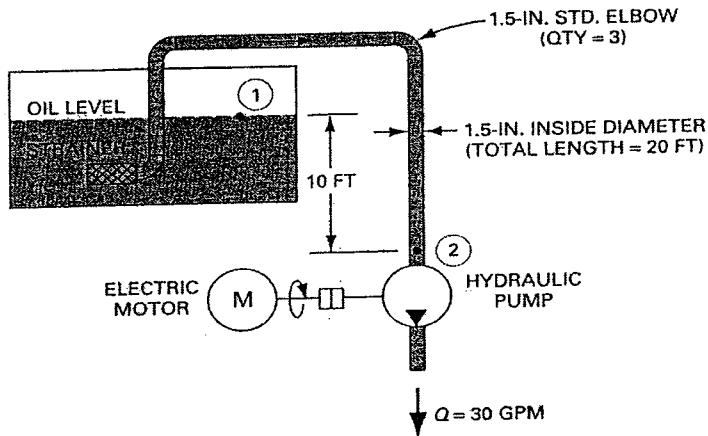

Figure 2A (Rajah 2A)
2. [a] The oil tank for the hydraulic system of Figure 2A is air-pressurized at 10 psi. The inlet line to the pump is 10 ft below the oil level. The pump flow rate is 30 gpm. Find the pressure at station 2. The specific gravity of the oil is 0.90, and the kinematic viscosity of the oil is 100 cS. Assume that the pressure drop across the strainer is 1 psi. (1 in = 2.5cm and 1ft = 30cm), K factor for steel elbow = 0.9, water density = 62.4lb/ft³.